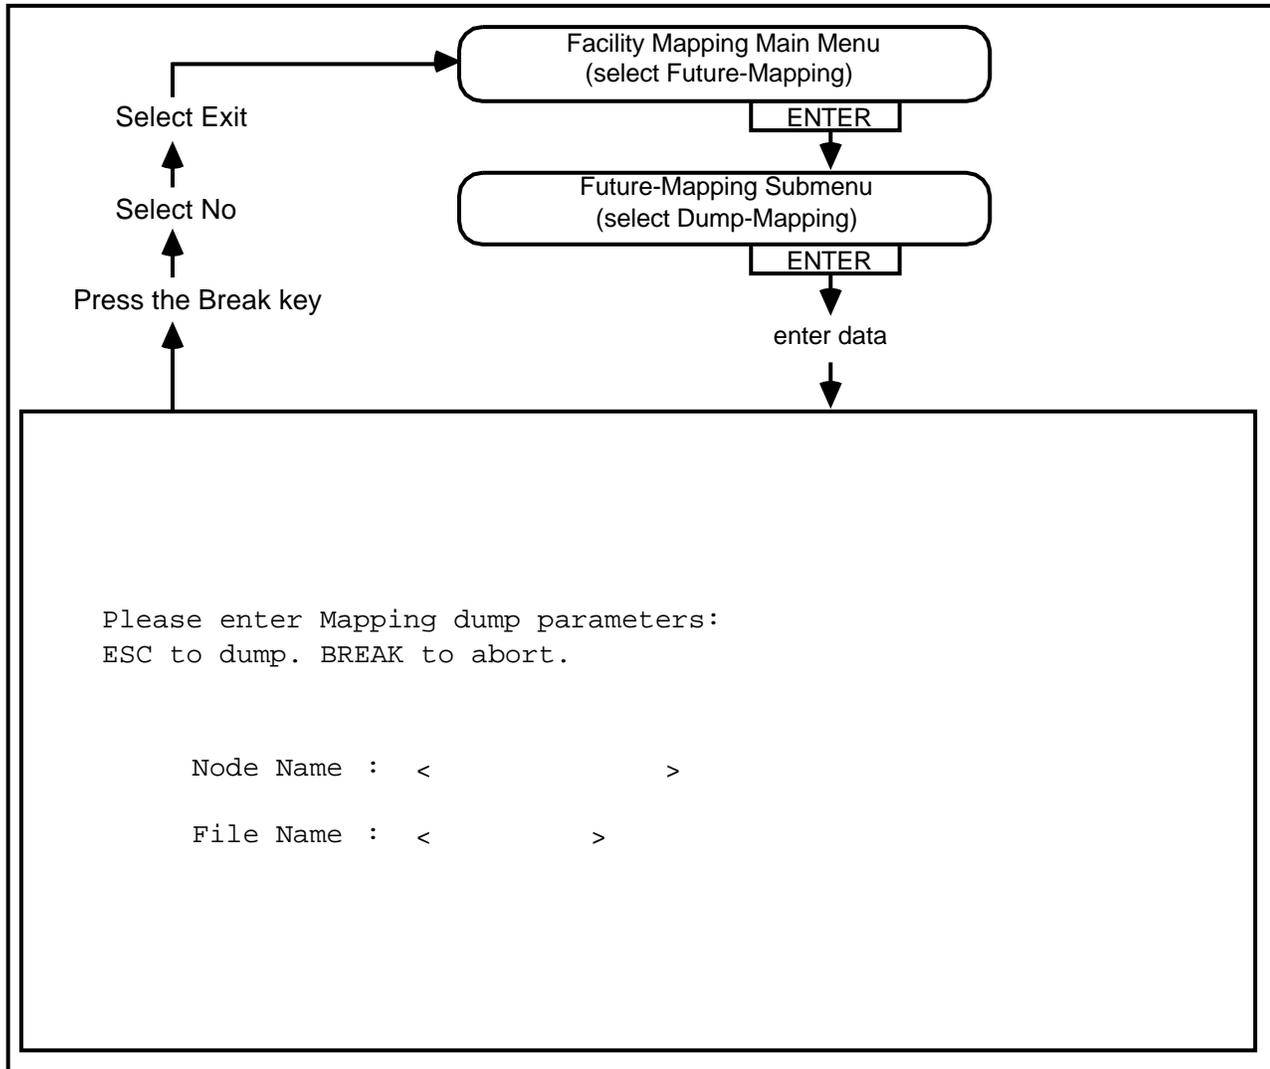

Fig. 7-12
7.30 *Field Information.* Using the mapping dump screen (see Fig. 7-12) the user can generate a mapping file for editing and future inclusion in the database. The following list describes the information required as data for the fields of the mapping dump screen.
7.31 *The Procedure for Dumping a Mapping to a File.* To generate a mapping file (see Fig. 7-12) proceed as follows: